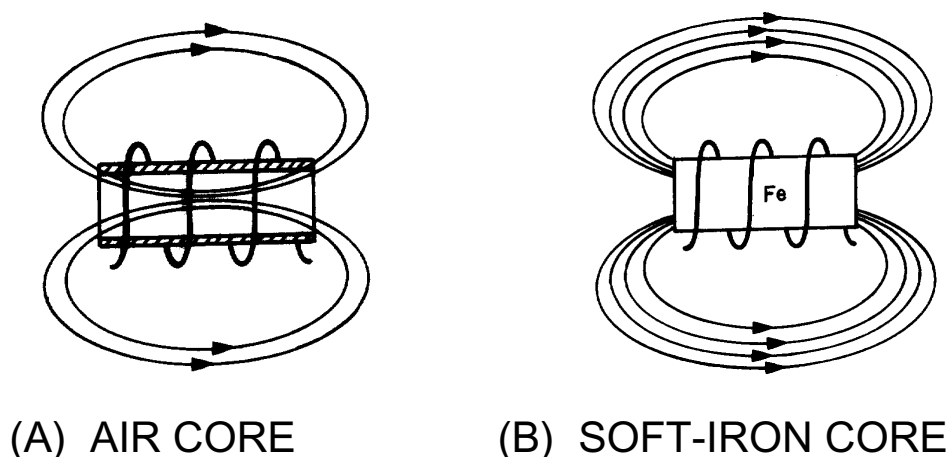

Figure 2-8.—Inductance factor (core material).
The fourth physical factor is the type of core material used with the coil. Figure 2-8 shows two coils: Coil (A) with an air core, and coil (B) with a soft-iron core. The magnetic core of coil (B) is a better path for magnetic lines of force than is the nonmagnetic core of coil (A). The soft-iron magnetic core's high